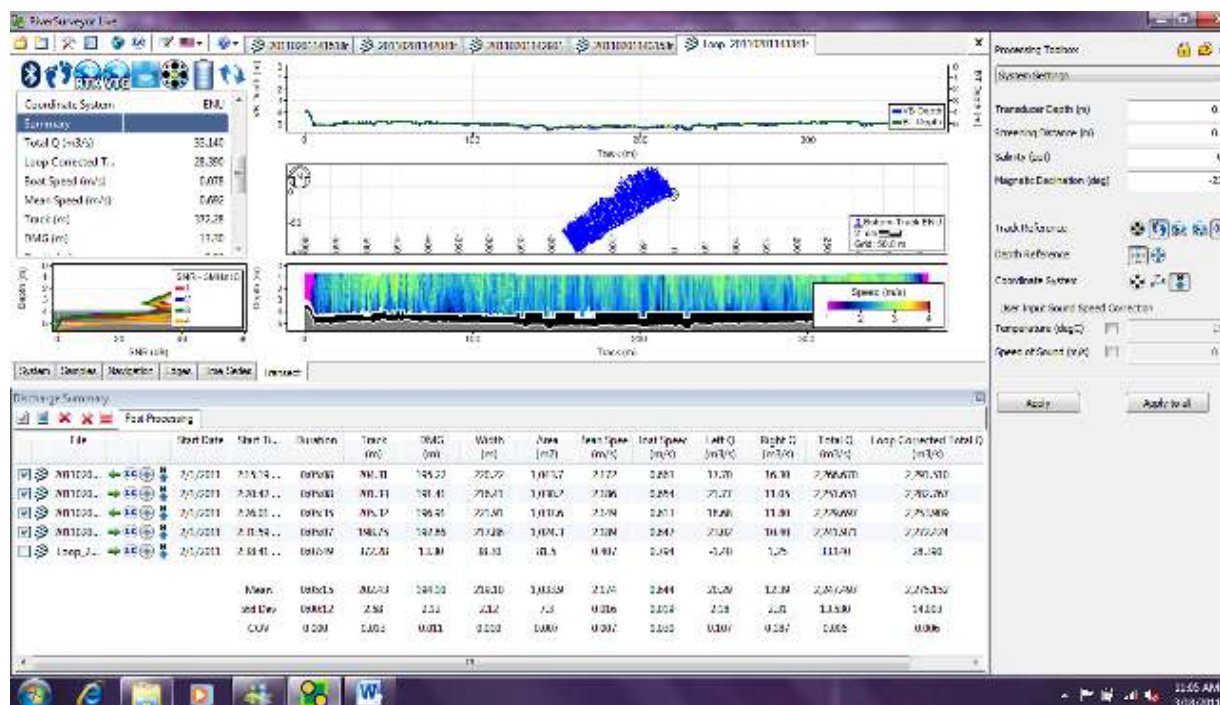

Figure 135. Loop Method Correction
- Click on the **LC** icon at the end of the Track Reference options in the Processing Toolbox on the right side of the screen. Click **Apply to all** to apply the loop correction to the open measurements. As soon as the correction (if valid) is applied, the Discharge Summary and the side bar summary table will update to show the "Loop Corrected Total Q" as shown in Figure 135: